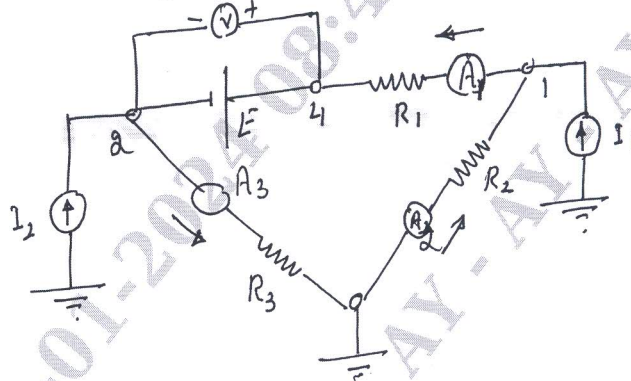

Fig.Q10(b)
b. For the Fig.Q10(b) shown estimate the state of the system given by nodal voltage  $V_1$  and  $V_2$  and the voltage  $\epsilon$  across the voltage source.